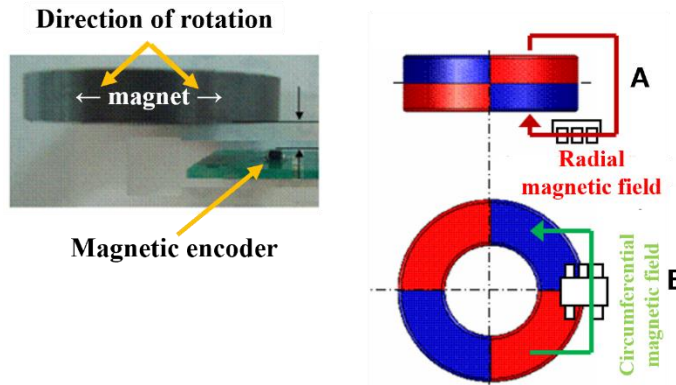

Fig.5 Layout for magnetic encoder to magnet
Following is an example of a design in which the magnetic encoder is placed under the edge of the outer periphery of the magnet. As shown in Fig.5, the radial (A) and circumferential (B) magnetic field components are generated alternately, so that 2-phase detection with a 90-degree phase difference can be possible.